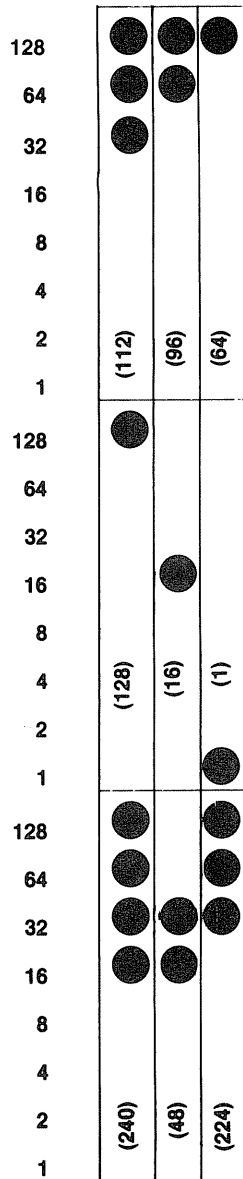

Figure 12-15. DMP-2100 High-Resolution Printing
The CHR\$(MM) and CHR\$(LL) are similar to the dot-column position sequence for normal graphics or text—the MM in this case, however, is *high order* value for the *point-column length*, and the LL is the *low order* value. The *point column* is the dot column times three, because there are three horizontal points for every horizontal dot, as shown in Figure 12-15. Note that the point column *length* is different from the point-column *position*. This will be the actual number of point columns printed for the graphics, as shown in the figure. The MM and LL values are computed the same way as for the dot-column values—the point-column number is divided by 256, with the remainder going to LL, and the quotient going to MM. A total of 1000 point columns, for example, would use an MM value of 3 (1000/256 is a quotient of 3), and an LL value of 232 (1000/256 = 3, remainder of 232).